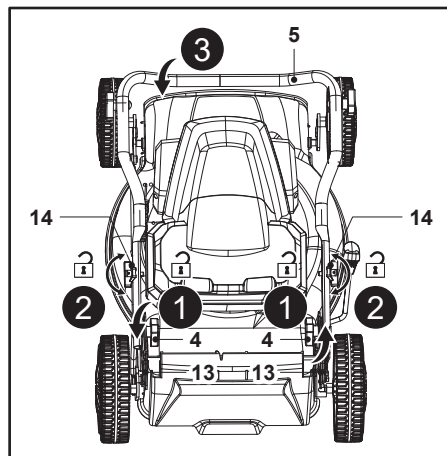

Fig. 1
2. Loosen the two locking knobs (4) on the handle brackets (13) slightly (Fig. 1, step 1).
3. Rotate the two locking buttons (14) 90° clockwise or counterclockwise to disengage, then unfold the lower handle bar (5) (Fig. 1, steps 2, 3).